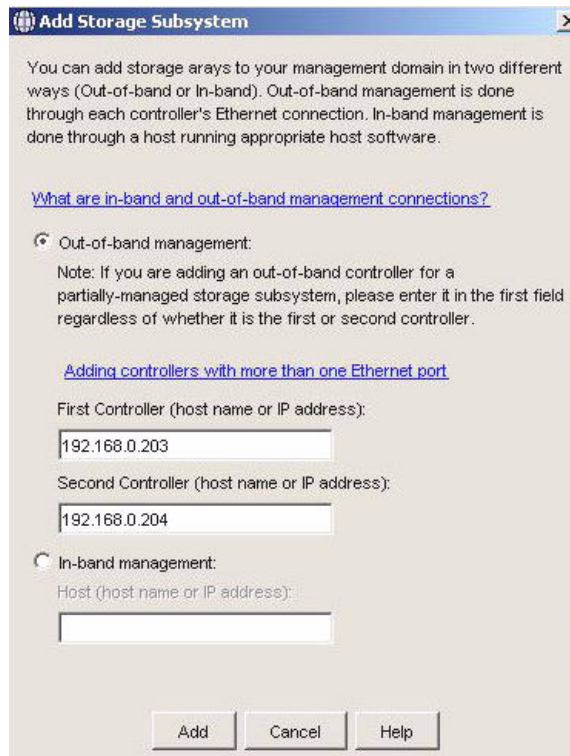

Figure 9-34 Add Storage Subsystem
3. Select **Manual** to specify storage subsystems and click **OK**. You will see a window similar to Figure 9-34.